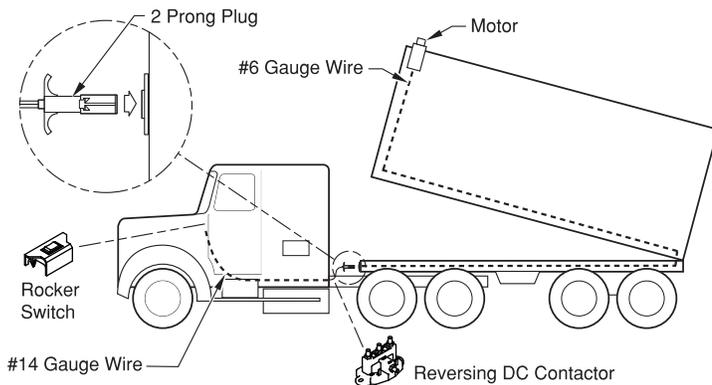

Figure 16-1
- 2a) **Figure 16-1.** Run #6 wire from receptacle to rear of trailer, onto dump bed, back to the front of the trailer and up to the motor. Secure all wire with clamps.